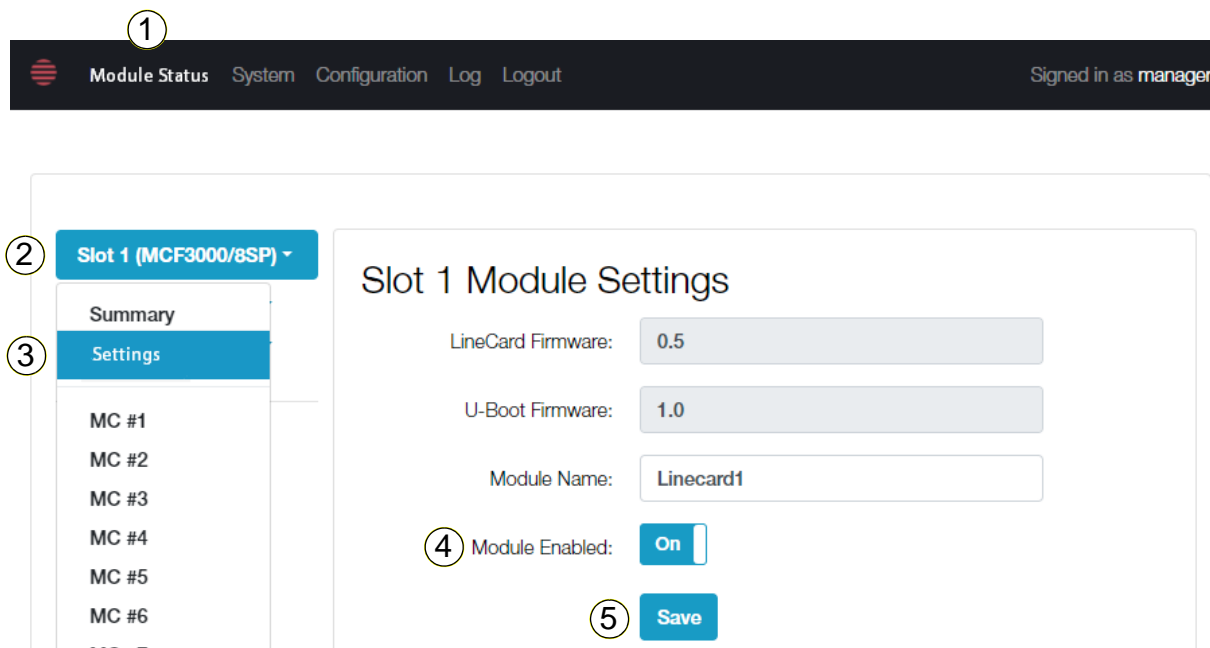

Figure 33. Slot Module Settings Window - Powering Off or On Chassis Slots
The steps are illustrated in Figure 33 and explained in the following procedure.
2. From the **Slot # (Module)** menu, click the module slot to be powered off or on. The example in Figure 33 shows the selection of slot 1. You can select only one slot.